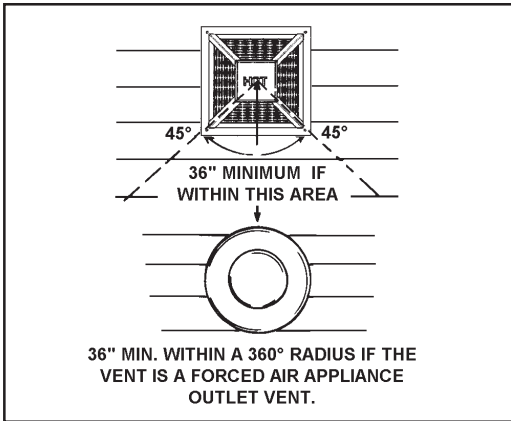

FIGURE 7
- 36" minimum from any outlet vents when directly below or 45° to either side of center line, see Figure 7.
- 36" minimum in all directions from any other forced air appliance outlet vent, see Figure 7.